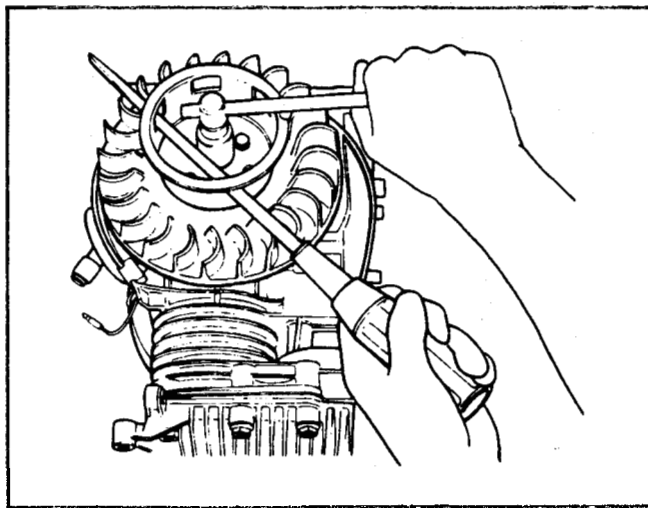

Figure 69
24. Hold the starter cup in place and remove the flywheel nut. See Figure 69.